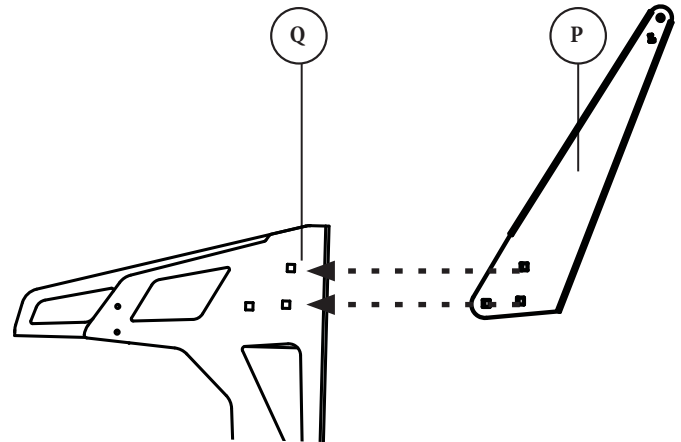
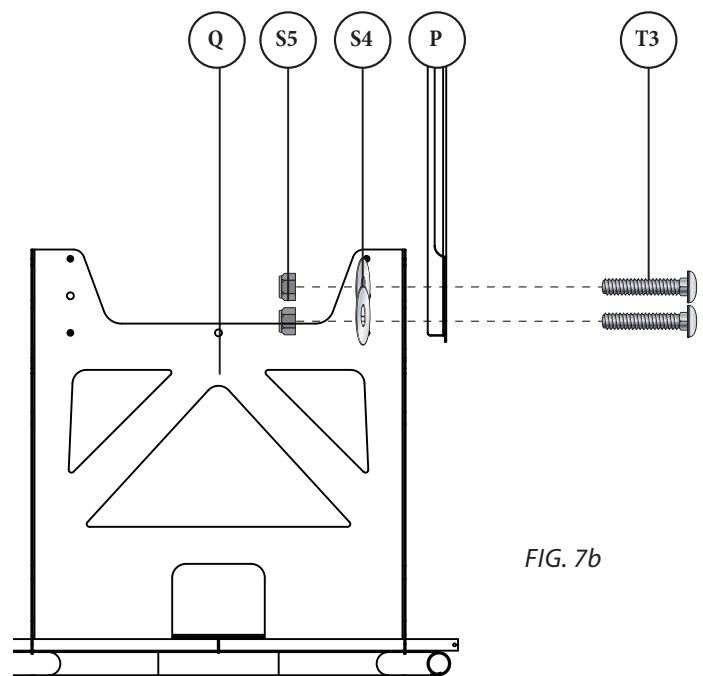

FIG. 7a
FIG. 7b
Align the three bottom holes of the Left Bracket (P) with holes on the left side of the Cart Body (Q) [FIG 7a]. Secure them in place using three Carriage Bolts (S3), three Flat Washers (S4) and three Nylock Nuts (S5) [FIG 7b].